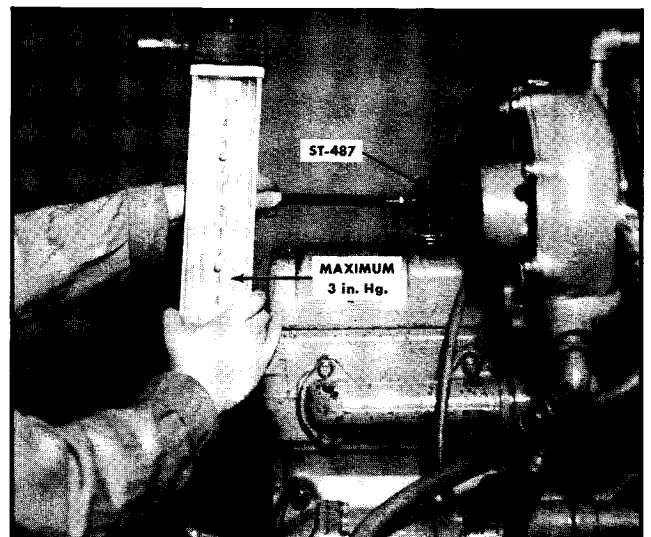

Fig. 12-87. Checking blow-by with ST-487
6. Install a rocker housing cover with an ST-487 Blow-by Checking Tool adaptor consisting of a "T" connection with a .302 inch orifice to which is mounted a manometer as shown in Fig. 12-87.